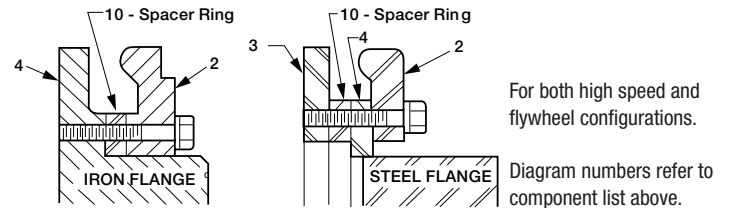

Fig. 1 Flange Spacer Ring Location
- (1) Flexible Element
- (2) External Clamp Ring*
- (3) Internal Clamp Ring*
- (4) Flange Assembly
- (5) Disc Assembly
- (6) TAPER-LOCK® Bushing
- (7) Bolt Ring
- (8) Screws (Disc. Assy.)
- (9) Screws (Clamp Ring)
- (10) Flange Spacer Ring (See Fig. 1)
- (5) Flywheel
- (8) Screws (Bolt Ring)
2. **Flange Installation:** Press or shrink straight bored flange assemblies on the shafts. Install TAPER-LOCK® flanges per instructions packed with the bushings. TAPER-LOCK® flanges on coupling sizes 87 thru 131 are versatile to permit locating bushing screws on the inside or outside of the coupling as desired or convenient. Note: The PX140 flange assembly (used on the 172 coupling) requires a flange spacer ring which must be installed before mounting flange assembly on the shaft. On models with iron flanges the spacer ring is installed between the flange assembly and external clamp ring, and on models with steel flanges it is installed between the flange assembly and internal clamp ring. See Fig. 1.